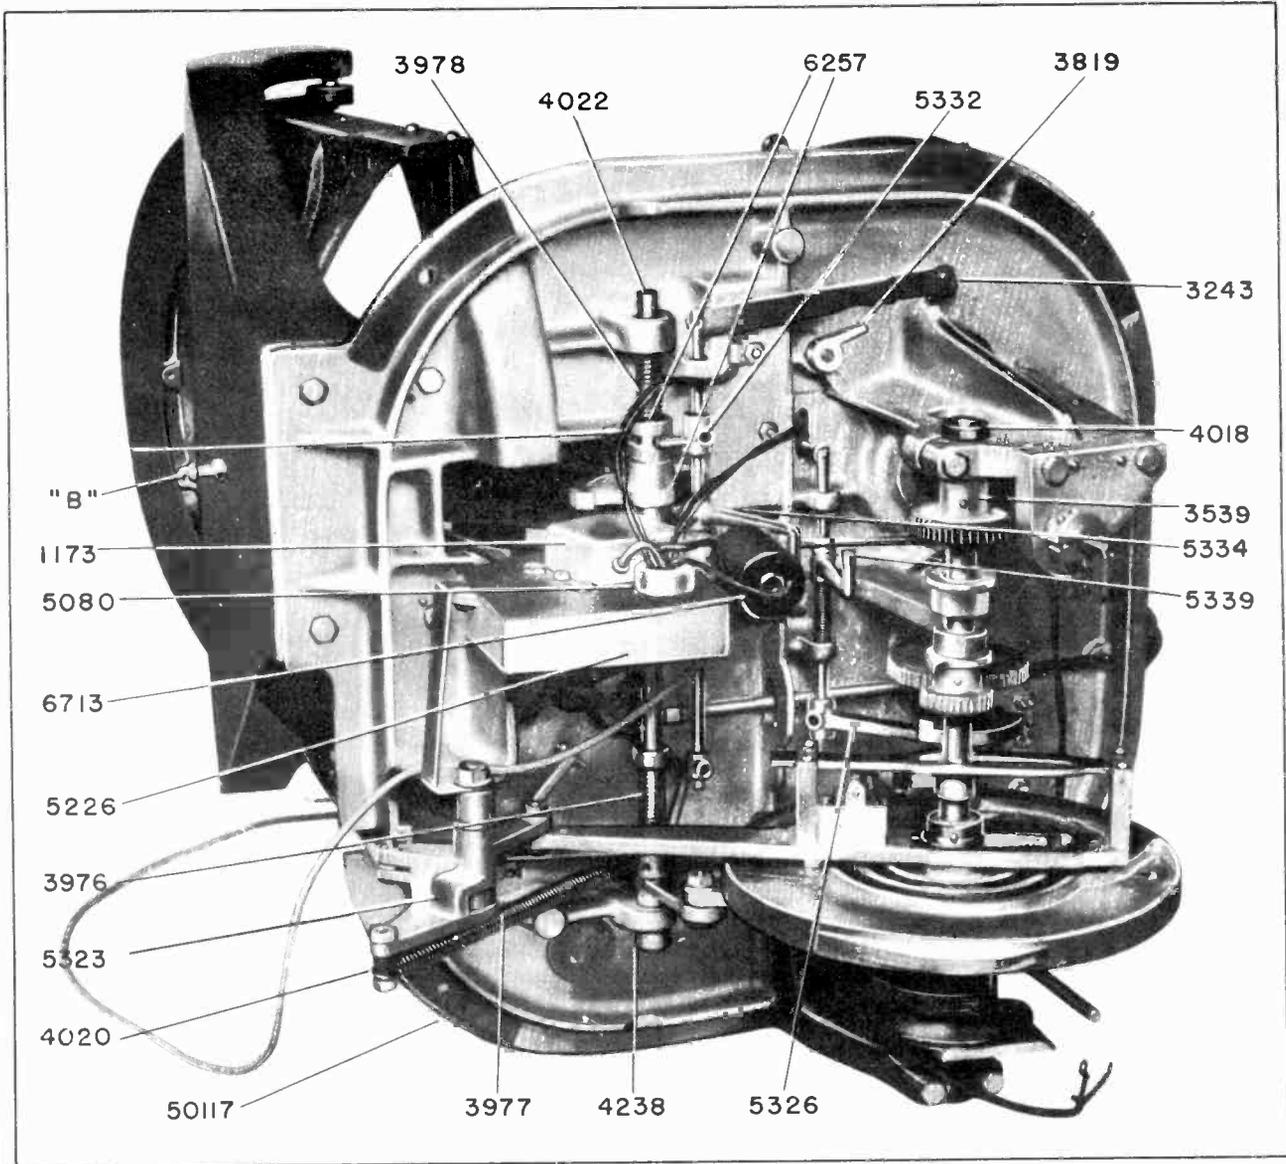

FIGURE 3
#### 14. TO ADJUST REVERSE CAM SHIFT LEVER (5326) (Fig. 3).
#### 15. TO ADJUST RECORD REPEAT LOCK LEVER (5334) (Fig. 3).
#### 16. TO ADJUST REVERSE CAM LOCK LEVER (5339) (Fig. 3).
**17. TO ADJUST RECORD REPEAT CLUTCH LEVER (5332) (Fig. 3).**
The Solenoid Motor Switch is located underneath the cast cover (5226) (Fig. 3) and is used to disconnect the Solenoid Coil during the change cycle and to shunt the phono relay contacts in order to keep the motor running until the change cycle is completed, even though the instrument is turned off. This switch is actuated by the Clutch to Solenoid Lever.